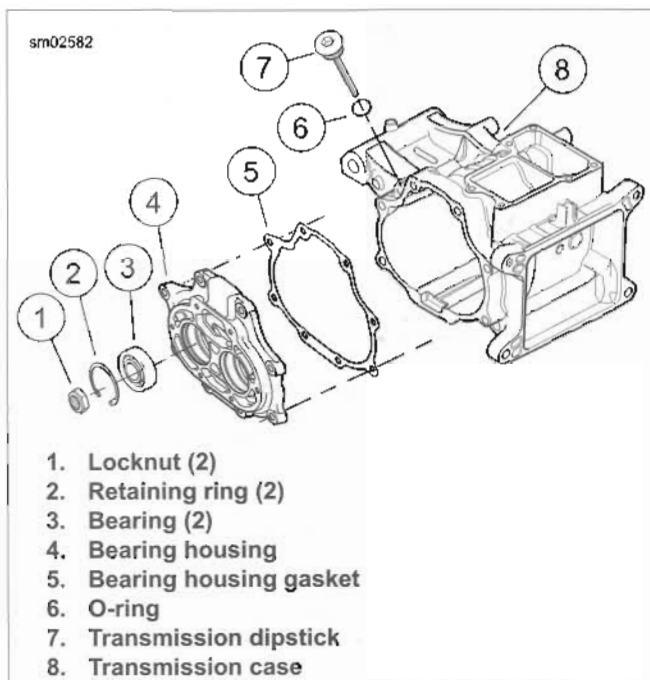

Figure 6-24. Bearing Housing Bearings
1. See Figure 6-24. Remove the retaining rings (2).
4. See Figure 6-24. Install beveled retaining ring (1) with the flat side against the bearing.